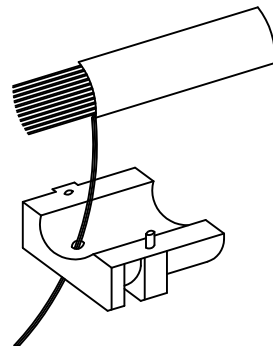
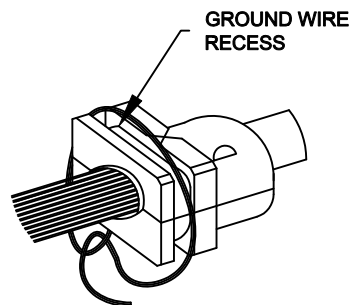

FIG. 1
FIG. 2
3. IF USING SHIELD WIRE - PLACE THE SHIELD WIRE THROUGH THE HOLE IN ONE SIDE OF STRAIN RELIEF HALF (FIG.1). APPLY THE OTHER STRAIN RELIEF HALF ON TOP OF CABLE JACKET AND WRAP THE SHIELD WIRE AROUND BOTH STRAIN RELIEF HALVES AS SHOWN IN FIG.2